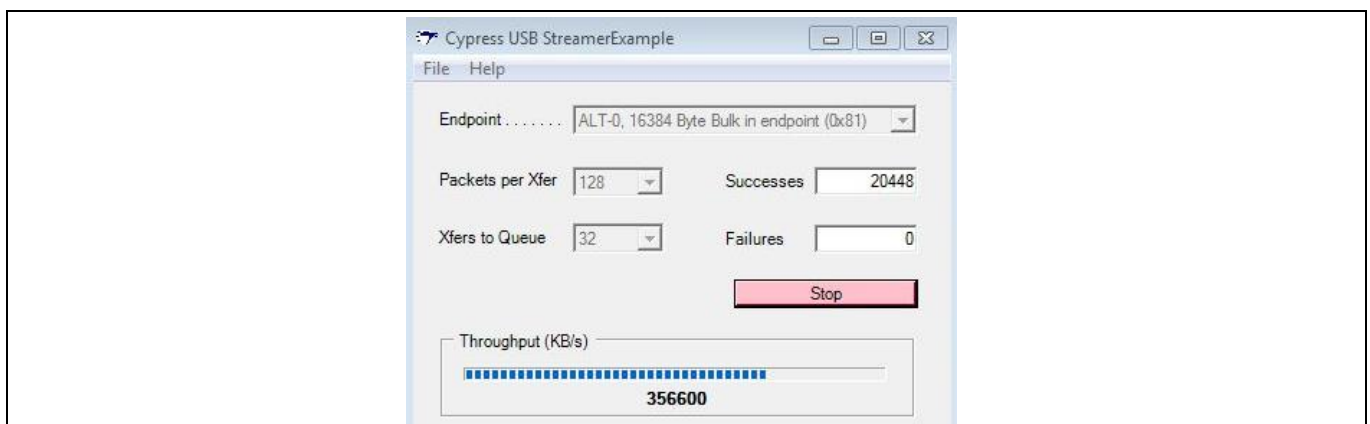

Figure 34 Streaming IN performance displayed in the streamer utility
6. In the stream IN case, now the FPGA is already in a state where it is waiting for FLAGA to equal 1. As soon as the buffer is available, the FPGA will start writing continuously to FX3’s PIB_SOCKET_0. From the USB host, you can issue continuous Bulk IN transfers. Select the BULK IN endpoint in the streamer utility and click **Start**. The performance number is displayed. The performance shown in Figure 34 is observed on a Win7 64-bit PC with an Intel Z77 Express Chipset.
7. In the stream OUT case, the FPGA is already in a state where it is waiting for FLAGC to equal 1. As soon as the data is available, the FPGA will start reading continuously from FX3’s PIB_SOCKET_3. From the USB host, you can issue continuous Bulk OUT transfers. Select the BULK OUT endpoint in the streamer utility and click **Start**. The performance number is displayed. The performance shown in Figure 34 is observed on a Win7 64-bit PC with an Intel Z77 Express Chipset.